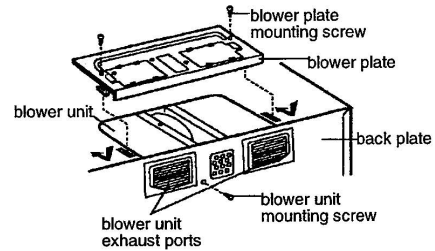

Figure 17
7. Reattach the blower plate to cabinet so the exhaust ports and blower plate opening are aligned. Attach with one blower unit mounting screw and then one or two blower plate mounting screw(s). See Figure 17.